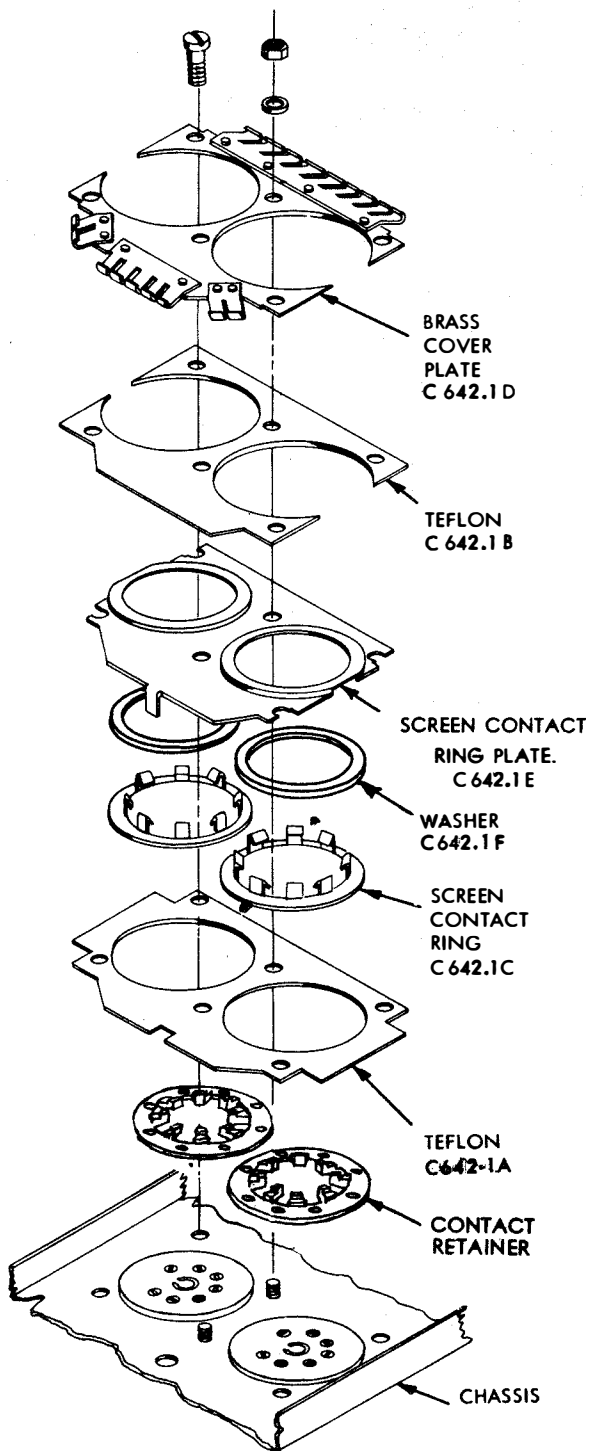

Figure 7-16. Power Amplifier Screen Bypass Capacitor
b. PA SCREEN BYPASS CAPACITOR, C642.1. —The construction of the power amplifier bypass capacitor is very similar to that of the tripler capacitor, except that Teflon rather than mica is used as the dielectric and the elements are cut to almost cover the width of the upper shelf so that one piece will serve for both tubes (see figure 7-16). The ground for the brass cover plate is made through spring assemblies which are riveted to the plate. The springs press against the chassis for ground connection. The mounting hardware provides an additional ground path for the cover plate. Four of the mounting screws are put in from the top of the chassis and secured with lockwashers and nuts applied from the top. The screen contact ring has oversize holes drilled through it to prevent the screws from shorting the screen grid to ground.